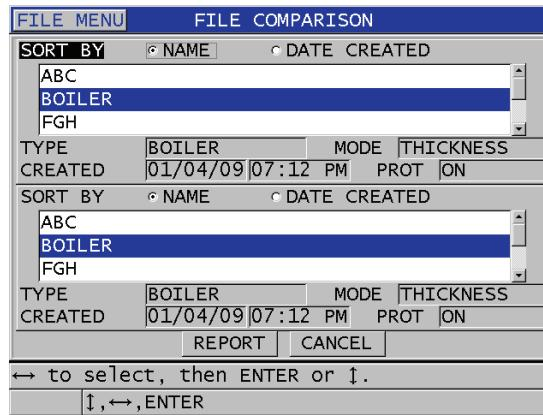

Figure 11-34 The FILE COMPARISON report screen
6. In the FILE COMPARISON screen (see Figure 11-34 on page 198):